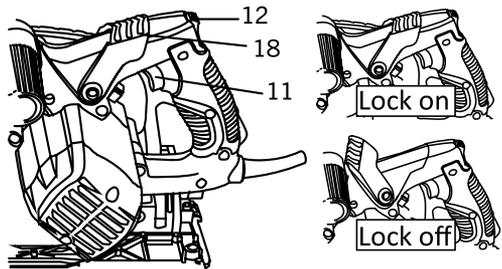

Fig. 5
1. To turn the saw ON, push forward the plunge release (12), then squeeze the ON/OFF trigger switch (11) (Fig. 5).
NOTE: Please ensure the safety button (18) is in the 'lock on' position before starting the tool, otherwise, if the safety button is in the 'lock off' position, the tool will not start. (Fig. 5)